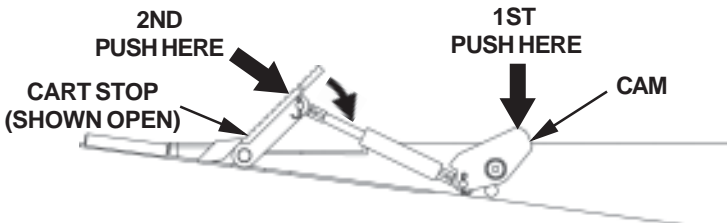

FIG. 3
2. To close Cart Stop, first push down on cam and then push down on Cart Stop (**FIG. 3**). A closed Cart Stop is shown in **FIG. 1**.